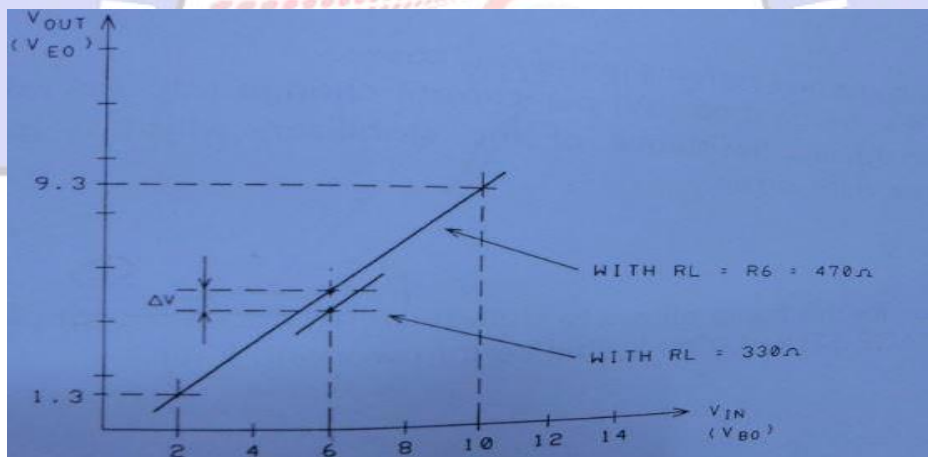

Figure 2: Sample results
- 2- Plot the results on a graph which should look like that of figure 2.